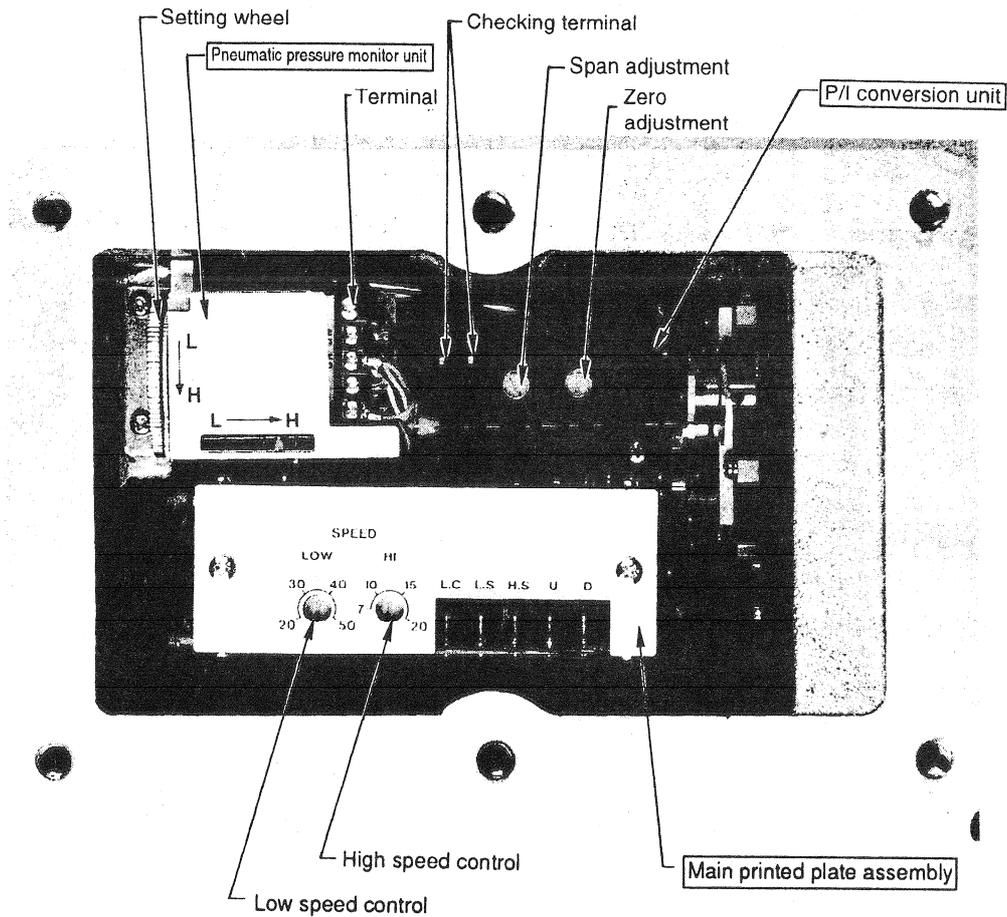

Figure 6-2 Electrical circuit section
Conduct the wiring and piping as described in 5-2 and 5-3. Also, see Figure 6-2.
- 1) Setting high speed (See Figure 6-2.)
In Figure 5-3, the section between customer terminals ⑪ (COM) and ⑫ (SPD) is turned ON. Adjust the variable resistor for high speed on the main printed plate assembly (See Figure 6-2 above).
- 2) Setting the low speed (See Figure 6-2.)
In Figure 5-3, the section between customer terminals ⑪ (COM) and ⑫ (SPD) is turned OFF. Adjust the variable resistor for low speed on the main printed plate assembly (See Figure 6-2 above).
Remove stains on the nozzle flapper of the pneumatic pressure sending unit (mechanical parts assembly, see Figure 6-2, with a cloth impregnated with a solvent such as petroleum, naphtha or chlorosene 1,1,1-Trichloroethane (Chloroethene). Wipe gently to prevent damage to the flapper beam (plate spring).